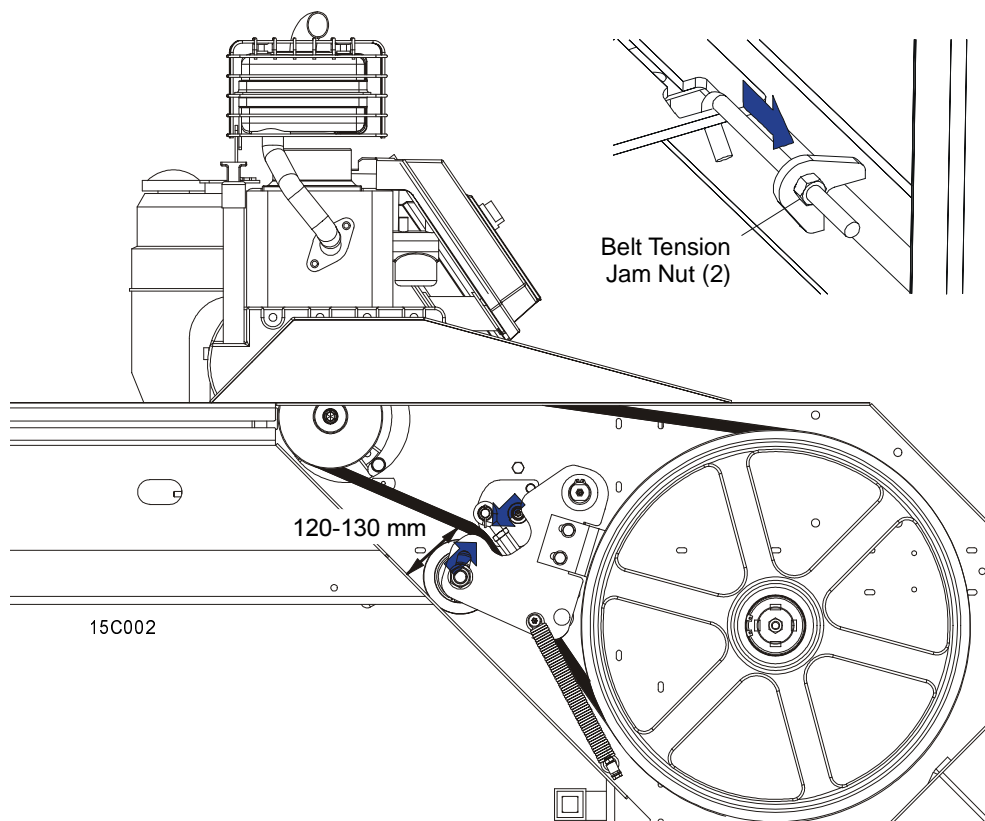

FIG. 3-1
1. Measure the distance from the blade housing to the drive belt with the tensioner handle disengaged as shown in Figure 3-1.
See Figure 3-1.